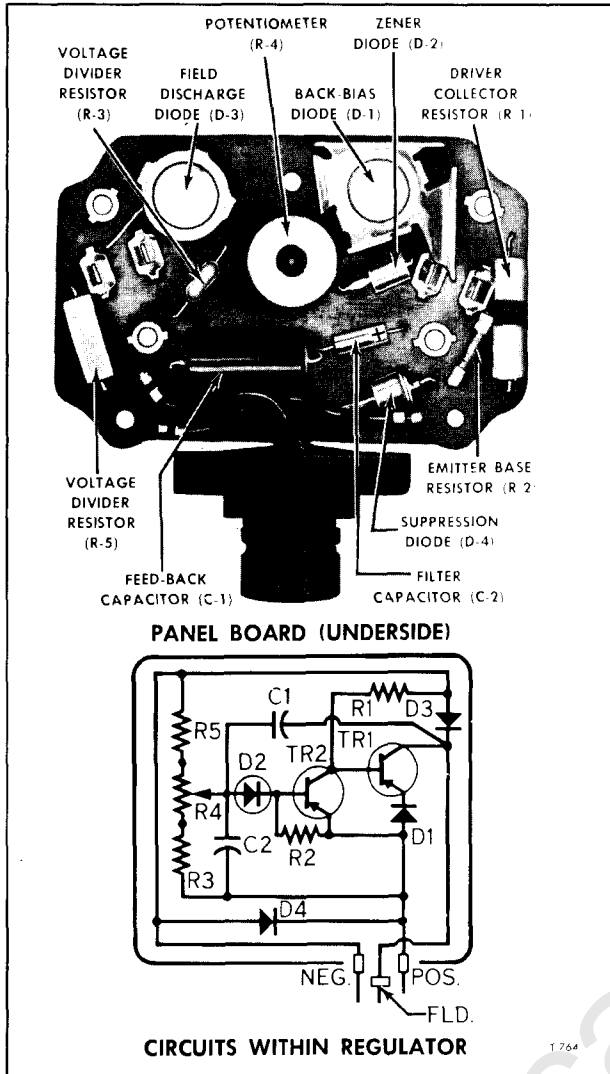

Figure 35—Under Side of Panel Board Assembly
3. To aid in reassembly, note or make any identifying markings on the two transistors and their respective locations on the panel board and heat sink assembly (fig. 35).
4. Note the insulators between the transistors and the heat sink, and the insulators separating the heat sink from the panel board (fig. 35).
If both readings are zero, the capacitor is defective. Visually inspect for open soldered connections and broken leads. To assemble a new capacitor properly, note location of the "+" identifying mark in figure 35.